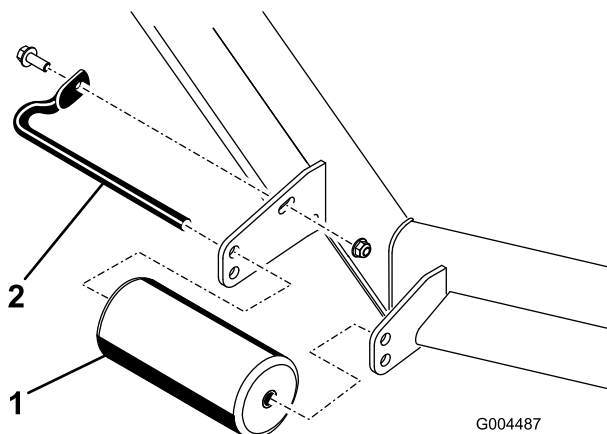

Figure 13
1. Remove the screw and nut securing the roller shaft to the deck bracket (Figure 13).